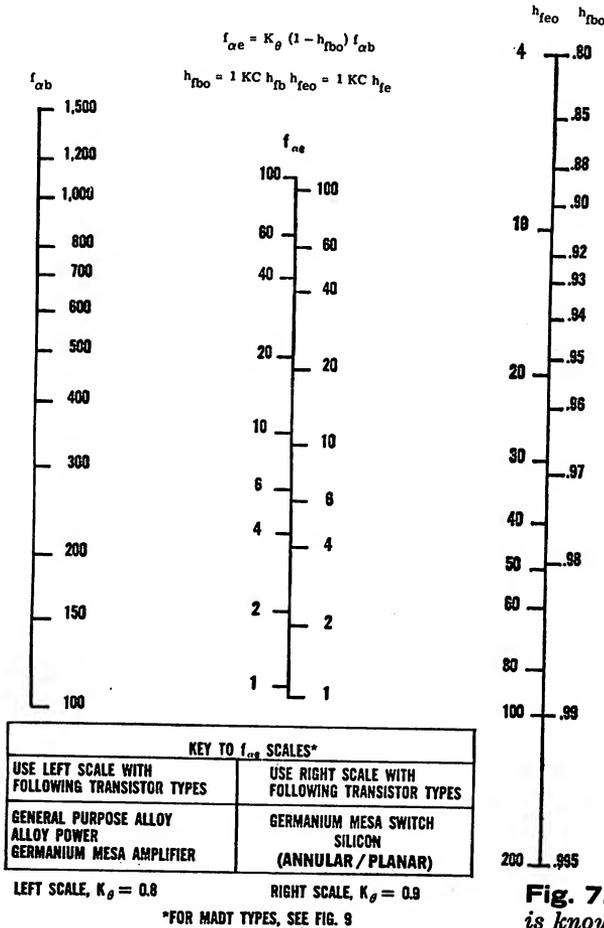
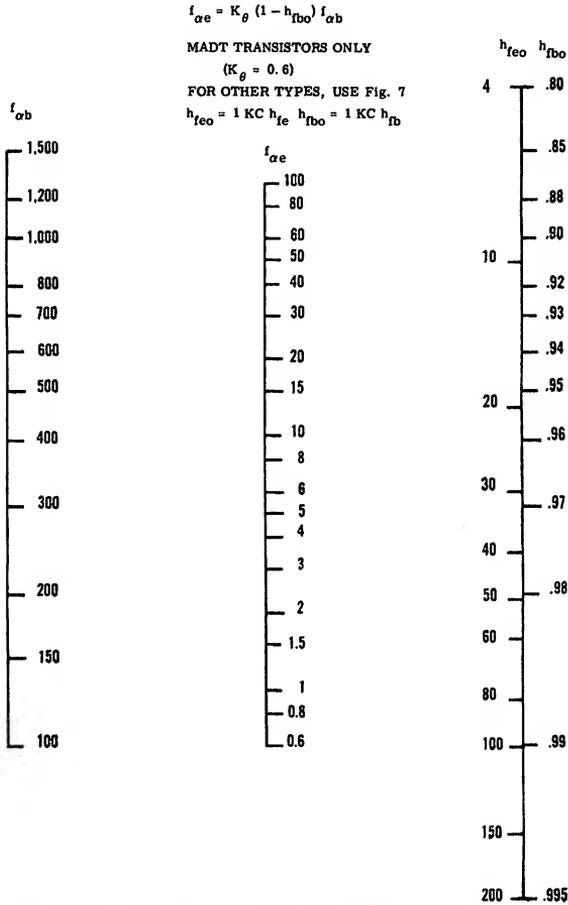

Fig. 7. Once $f_{\alpha b}$ is known this nomogram is used to find $f_{\alpha e}$.
Fig. 9. This nomogram is identical to Fig. 7 but is used for MADT transistors.
- (C) If $f_{\alpha e}$ is not known, use Fig. 5 to find $f_{\alpha e}$ if f_T is known (Fig. 7 to find $f_{\alpha e}$ if $f_{\alpha b}$ is known (Fig. 9 for MADT types).
Fig. 7 is a nomogram of $f_{\alpha b}$, $f_{\alpha e}$, and either h_{fb0} or h_{fe0} . To account for variations in this relationship with different transistor types, there are two $f_{\alpha e}$ scales, with a guide to which one to use. Given: for a GPA transistor, $f_{\alpha b} = 1$ mc and $h_{fb0} = 0.90$. Find: $f_{\alpha e}$. Answer: 80 kc. For MADT types, see Fig. 9.
Figure 9 is a nomogram which is identical to Fig. 7 except that it is for use with MADT transistors (see instructions for Fig. 7).